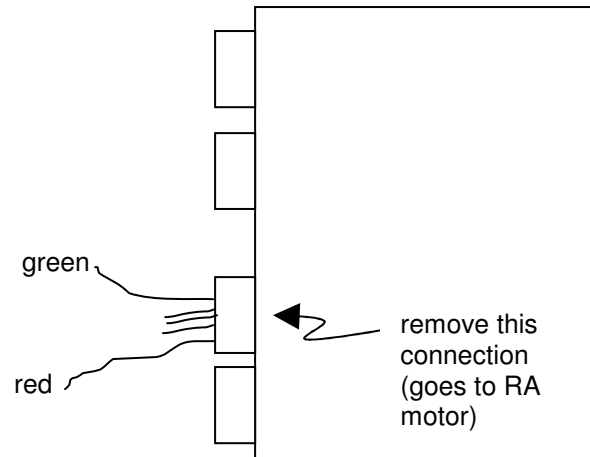

Figure 19: Connector to remove from circuit card in East fork arm
5.1 Unguided Tracking: With the autoguider boxes un-checked (i.e. guiding "off" in both axes), and the main imager binned 2X2 (about 2 arc-sec per pixel) I put a star in the center of the FOV, and created a 20-minute autoguider log to show the inherent tracking error of the mount. The result is shown in Figure 19. Note that this graph is reported with 2X2 binning, that is about 2 arc-sec per pixel.